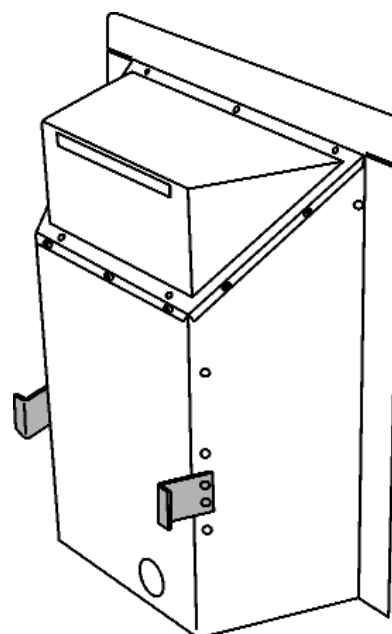

Figure 16. Fireback spacers.
6. The appliance is supplied with two fireback spacers that must be fitted in all installations. These should extend backwards to ensure sufficient clearance from the back of the fireplace. Position the fireback spacer as shown in figure 16. Secure the fireback spacers using the four tapping screws supplied with the fire.